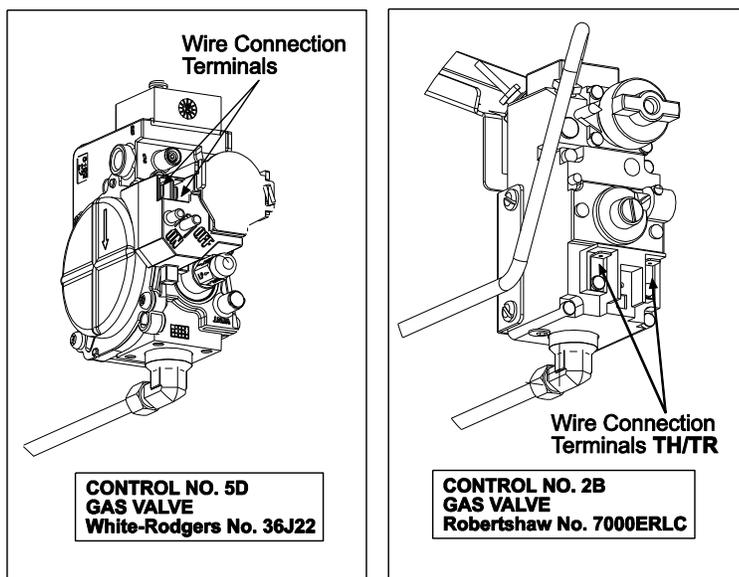

FIGURE 6d
1. **DSI Controls 5D:** Locate the two (2) blue wires from the ignition control assembly (**control no. 5D** only). Connect these to the valve terminals shown in Figure 6d. Refer to the wiring diagram location in Section 8, *Electrical Connections*.
2. **Pilot Controls 2B:** Connect the 24V supply wires (field supplied) to the gas valve of **control no. 2B**. See Figure 6d.